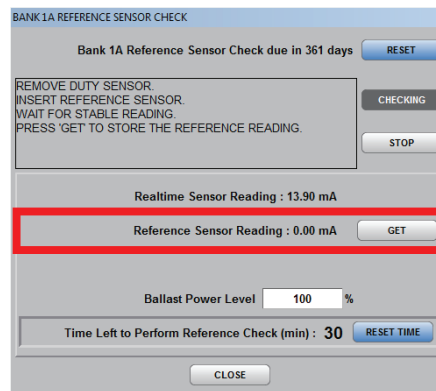

Figure 4 Reference Sensor - GET Screen
- Once the Reference Sensor Reading has stabilized, press the GET button for the Reference Sensor Reading (Figure 4).